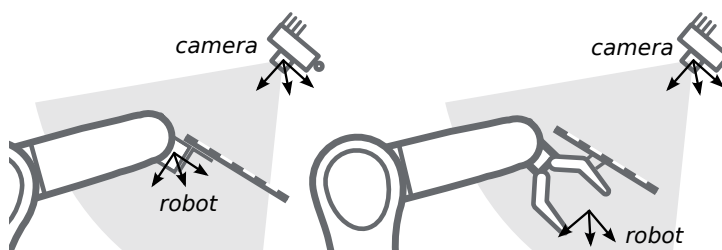

Fig. 6.20: Alternate mounting options for attaching the calibration grid to the robot
**Calibration with a statically-mounted camera** In use cases where the camera is positioned statically w.r.t. the robot, the calibration grid needs to be mounted to the robot as shown for example in Fig. 6.19 and Fig. 6.20.
**Note:** The hand-eye calibration module is completely agnostic about the exact mounting and positioning of the calibration grid w.r.t. the user-defined *robot* frame. That means, the relative positioning of the calibration grid to that frame neither needs to be known, nor it is relevant for the calibration routine, as shown in Fig. 6.20.